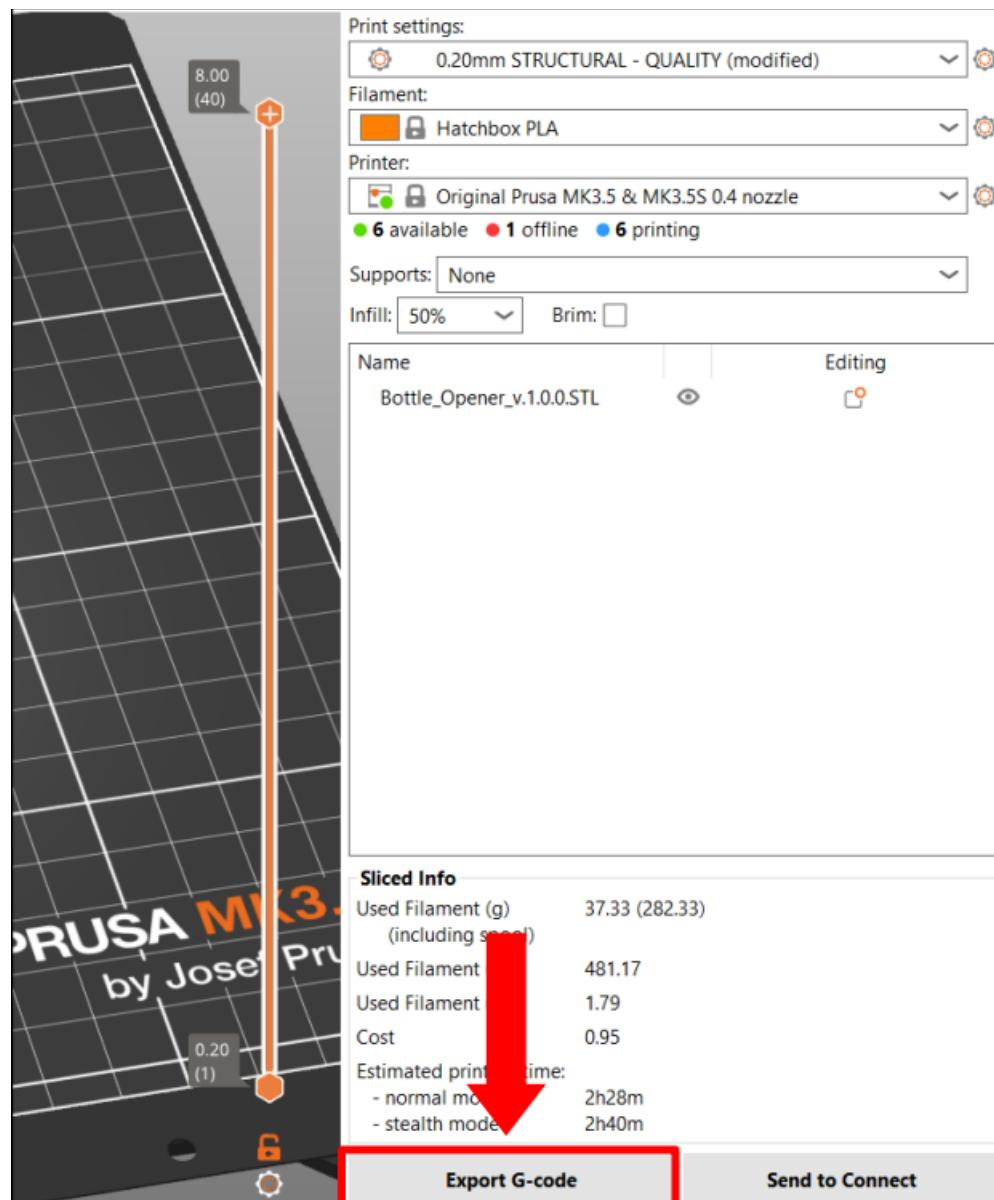

Figure 5. Export G-code Button.
- 10.) Once the slicing is finished, click "Export G-code" (see Figure 5) and save the G-code to a flash drive.